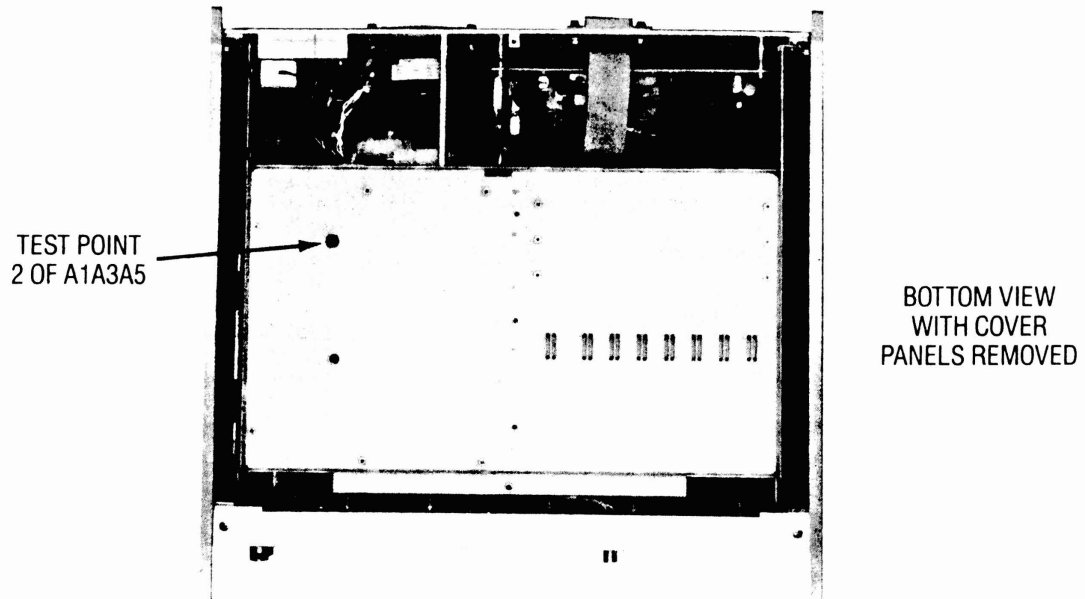

Figure 3-9. LOCATION OF TEST POINT 2 OF A1A3A5
2. Connect the test cable between the frequency counter input and Test Point 2 on assembly A1A3A1. See Figure 3-9 for the location.